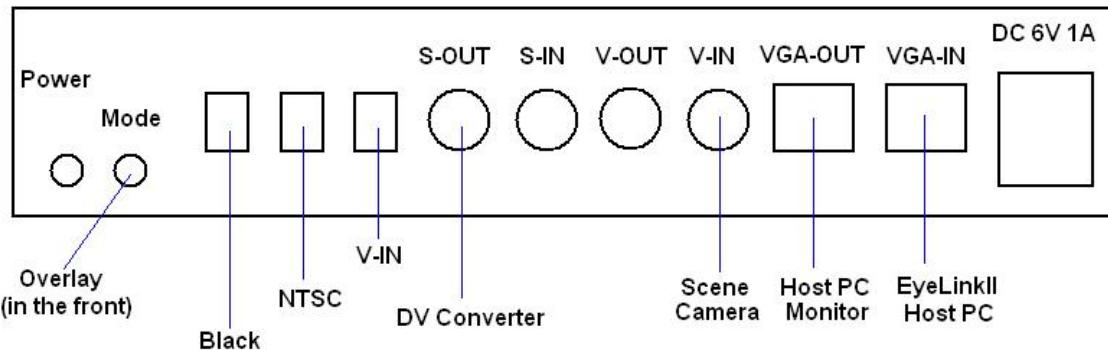

Figure 3-5: Wiring Diagram for Scene Camera Option.
- Next, connect the scene camera output to the overlay input and the overlay output to the Canopus DV converter box with proper cables. Figure 3-5 illustrates the connection between the RCA plug from the scene camera and the “V-IN” of the overlay box and the connection between the “S-OUT” and the S-Video input of the DV Converter.